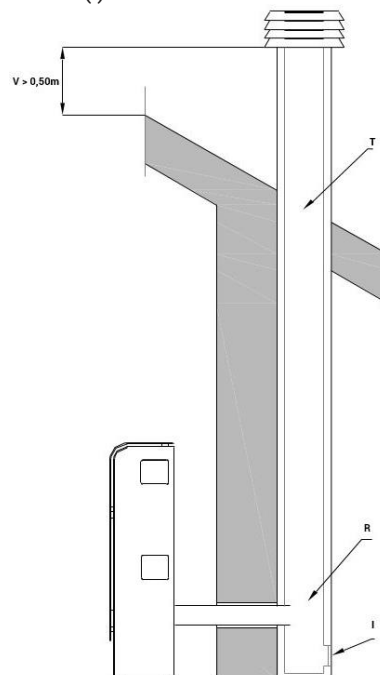

Figure 2.5: Smoke exhaust towards the roof via traditional chimney
Flue gases of a stove may be removed via a traditional, already constructed chimney (Figure 2.5), if it meets the applicable standards. The main properties of a good chimney (T) are concisely listed below: